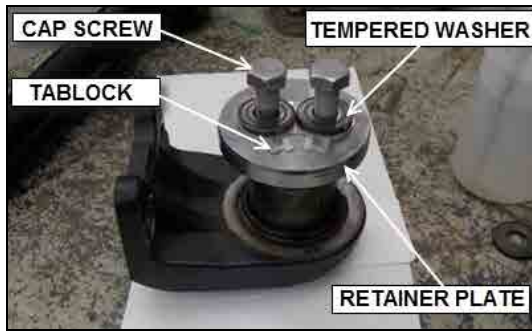

FIGURE 9
12. Install the retainer plate, the tab lock, the tempered washers, the cap screws (finger-tight) in this order (figure 9 & 10). **Do not** apply lubricant, Loctite or anti-seize compound whatsoever on the cap screws. Do not bend the tab locks at the moment.